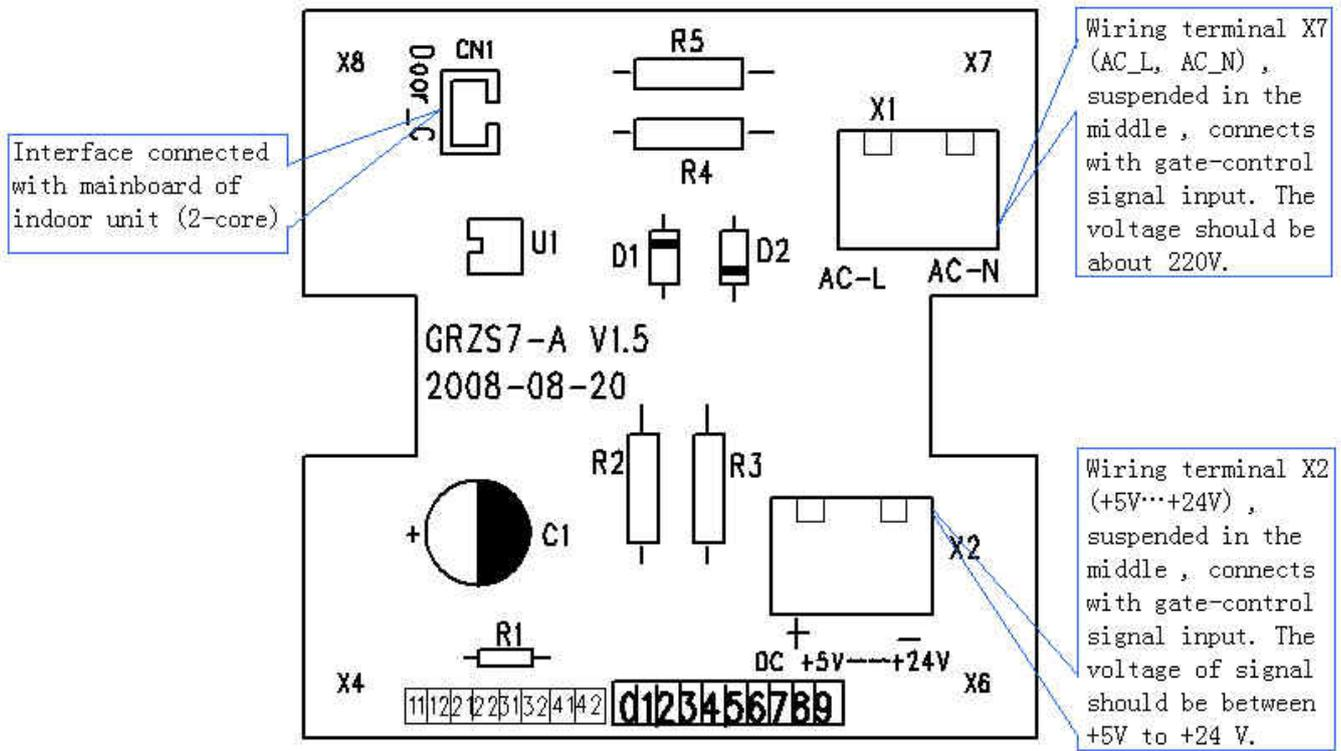

Fig2: Detection Control Board Interface Sketch
9.3 Detection Control Board Interface Sketch is shown in Fig.2: